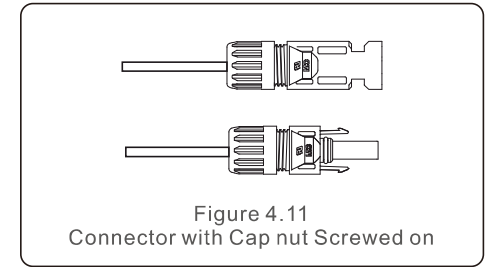

Figure 4.11
4. Insert the contact pin to the top part of the connector and screw up the cap nut to the top part of the connector. (see figure 4.11).